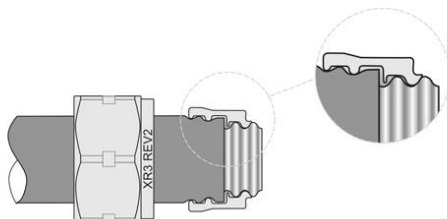

Fig. 4-2
Step 1 Cut-to-Length (Fig. 4-2)